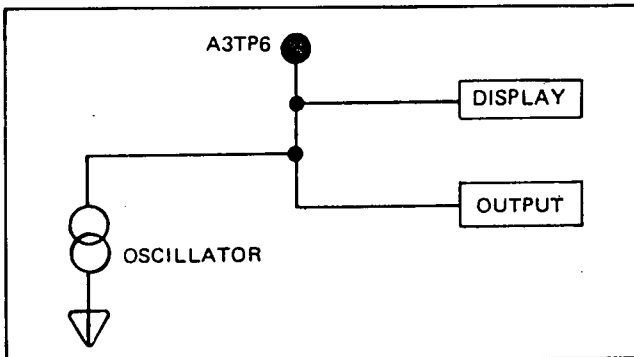

Figure 7-1. Block Diagram of Send Circuitry.
7-15. The Send circuits can be functionally divided into three areas consisting of the (1) Send Oscillator, (2) Send Level Display and (3) the Send Level Output. The troubleshooting procedure first concentrates on isolating the malfunction to one of these three areas, then to isolating the problem within that particular area. A basic block diagram is shown in Figure 7-1.